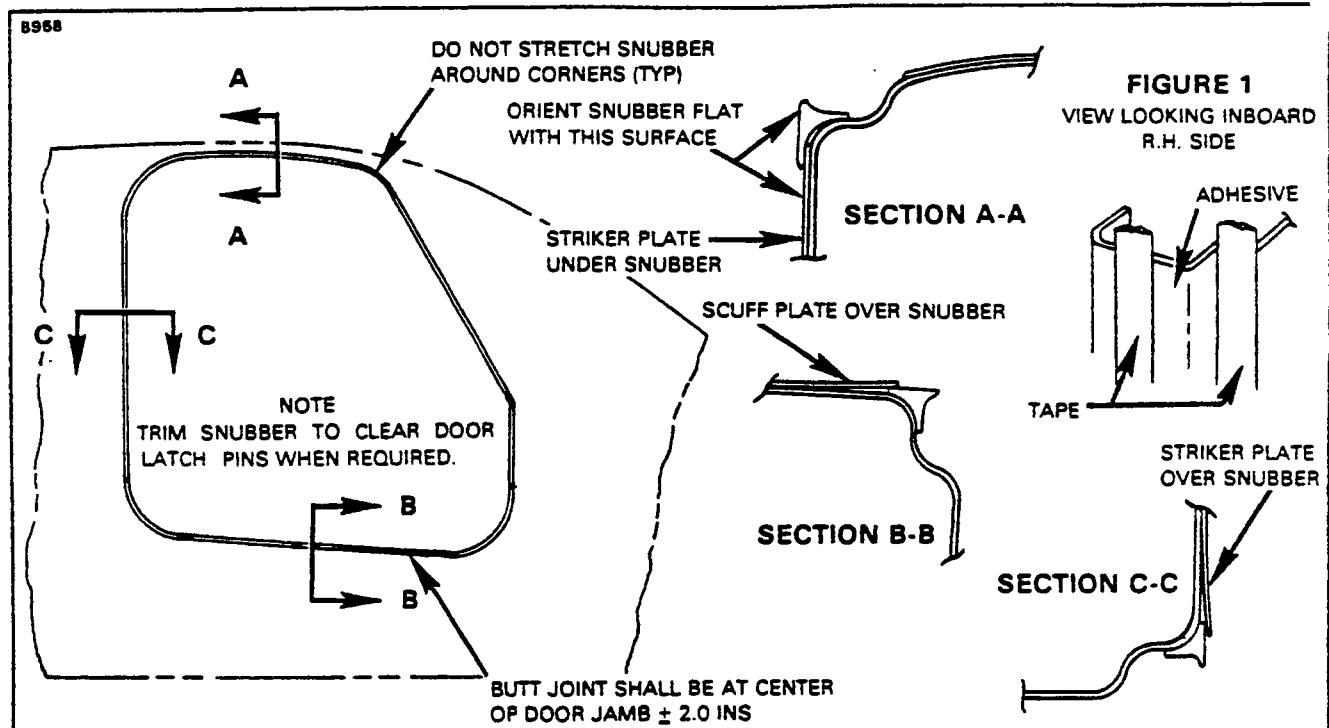

Figure 4-8. Door Snubber Installation
4-41. REMOVAL AND INSTALLATION OF DOOR SEAL SNUBBERS. (Refer to Figure 4-8.)
- 7. With reference to Figure 4-8, make sure the seal is properly aligned before allowing the surfaces to come in contact. The seal should not be stretched or pulled such that the cross section of the seal is reduced or distorted. Make sure the door closes properly and that an airtight seal is produced.